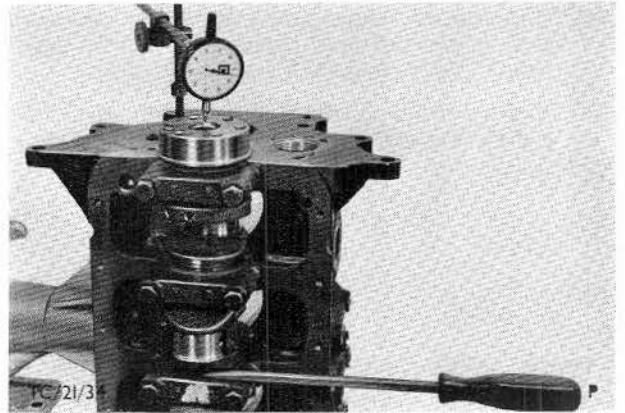

Fig. 46. Check end-float of crankshaft.
41. Check end-float of the crankshaft and camshaft using a dial indicator, Fig. 46. See Technical Data for values.